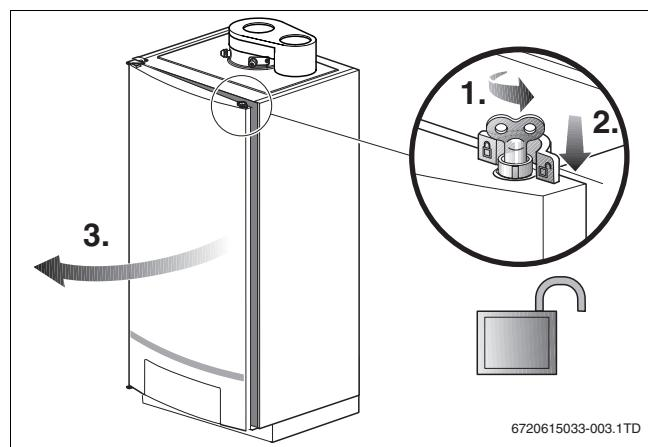

Fig. 2 Opening the boiler door
- ▶ Open the boiler door by turning the vent key through 1/4 rotation (→ fig. 2).